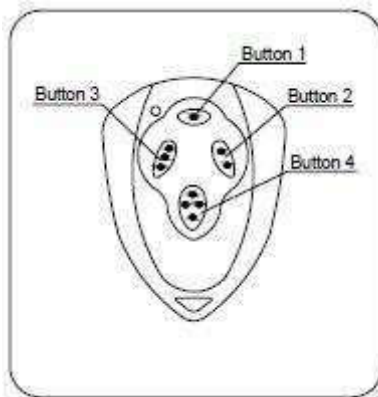

Fig. 10
**(3) Adding / erase remote controls**
- The remote control works in three-channel mode, (button 1-open, button 2-close, button 3-stop) See Fig.10.